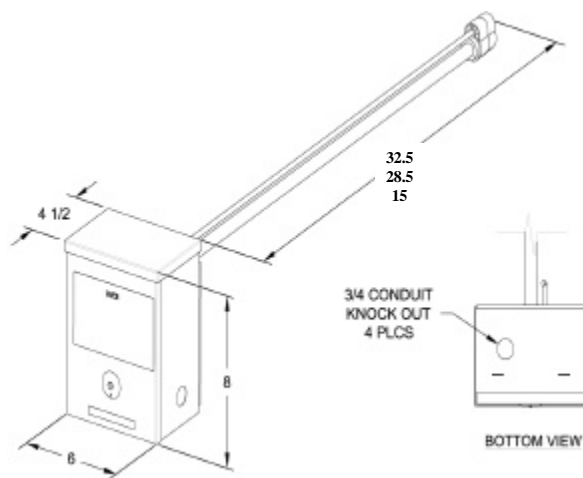

Fig. 1a. Shown: V-Strike™ XS in inches
2. **Be sure the duct mounting location is a minimum of 8 in. wide and proper depth (i.e. 37", 32" & 19"). See Fig.1a and 1b)**
3. Allow clearance in front of the device for removing the lamp assembly. See Fig. 1a and 1b for lamp assembly lengths.